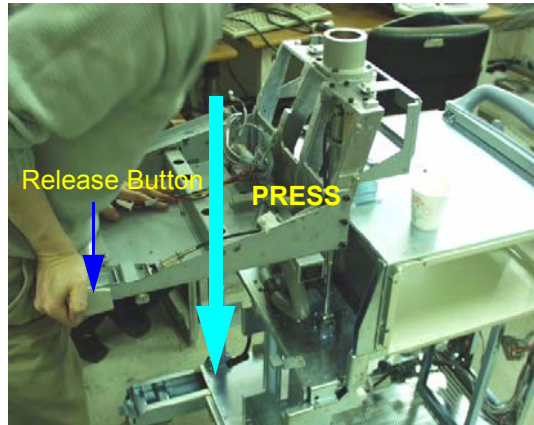

Figure 8-104 Lowering the OP Frame
- 1.) Lower the OP Frame down to its lowest position. Refer to Figure 8-104 on page 8-56 .